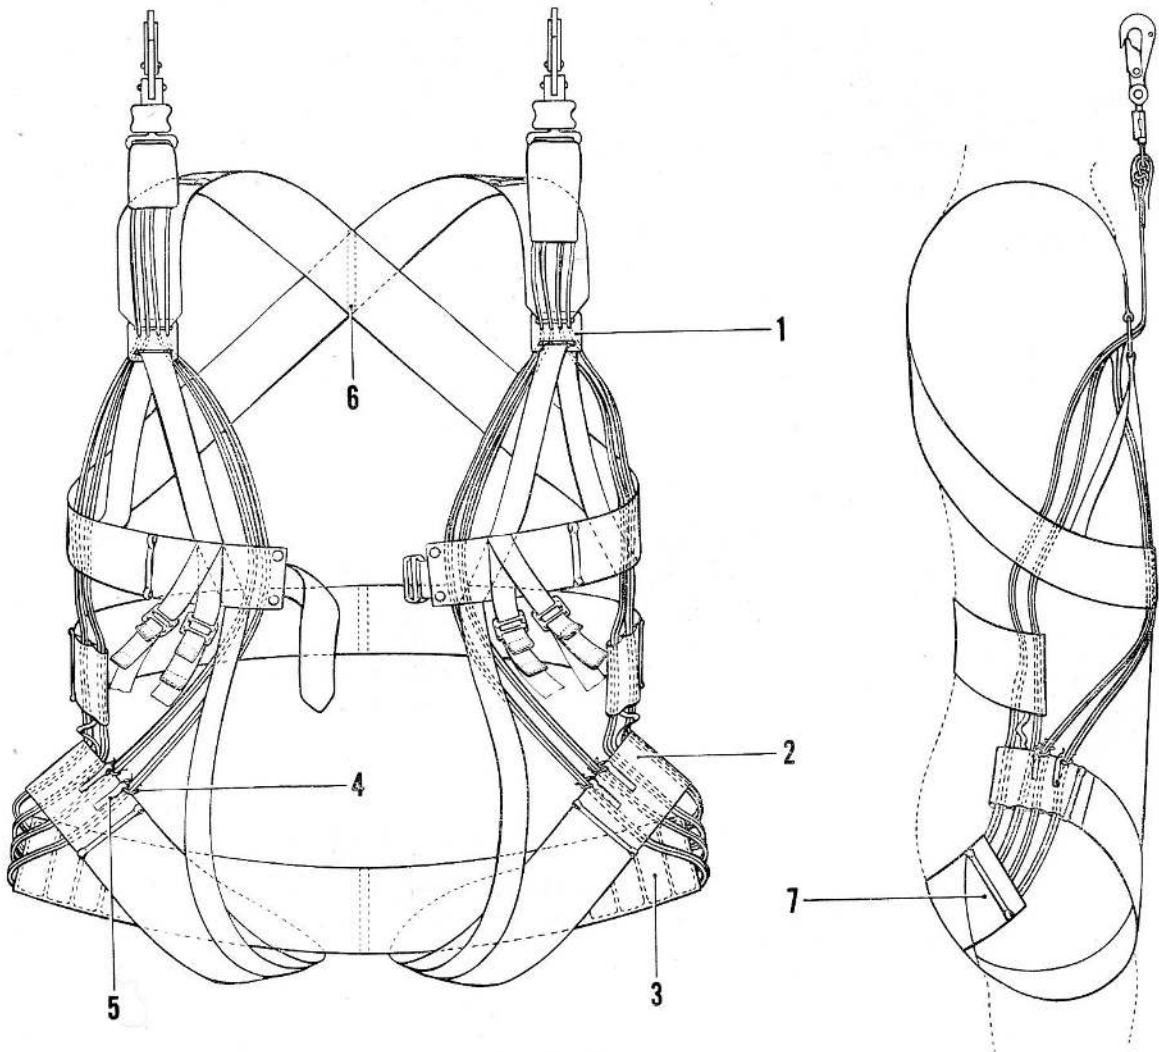
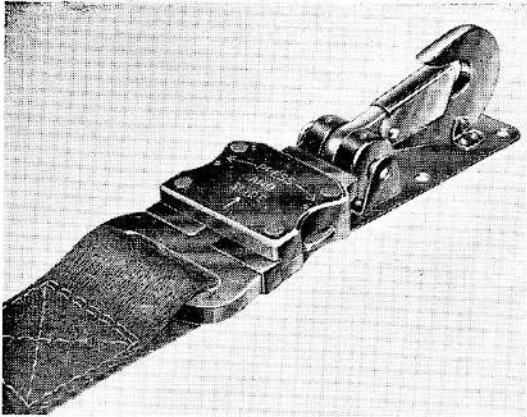

Fig. 7. Harness
Fig. 8. Combined snap hook and canopy release on mounting plate
8. The harness (fig. 7) consists of nylon webbing waist belt, cross strap, back strap, and leg straps, joined by a series of eight lengths of 700 lb. nylon cord in parallel. Two nylon straps, 1 in. wide, connect the seat strap and the waist belt and prevent the latter from riding up during a descent. Special shoulder adapters in which there are four slots, each affording passage for two of the cords, permit a small measure of self adjustment as the loads of the canopy opening are transmitted to the cords. The harness is fitted with combined canopy releases and snap hooks (fig. 8 and 9). Four dinghy attachment straps, less attachment fittings, are sewn to the waist belt, two on each side at the front. The waist belt itself is fitted with the four female parts of the press studs referred to in para. 6. A sliding bar buckle enables the ends of the waist belt to be
10. (1) Place the harness flat on a table and stretch it to its fullest extent by gripping the adapter at Item 1 of fig. 7 and the seat strap at Item 3, and pulling them apart until the adapter reaches the base of the zig-zag stitching at the connection of the lines to the disconnect attachment lug.